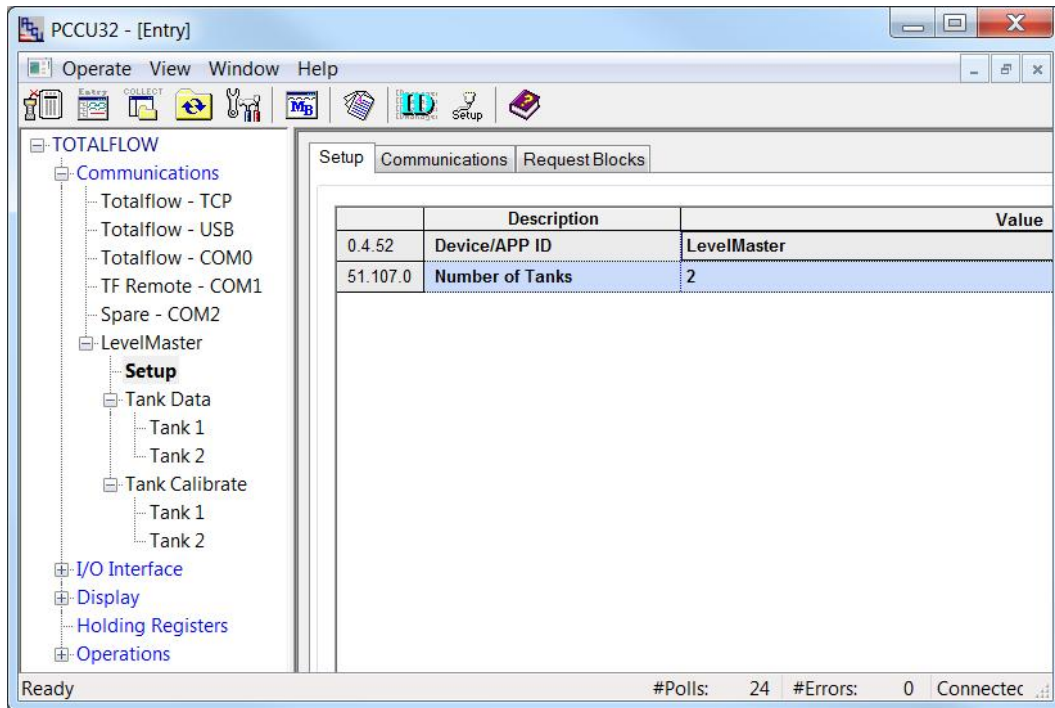

Figure 47: LevelMaster application Setup tab
4. On the **Setup** tab, the value of the Device/APP ID may be changed. Any name change will be reflected in the tree-view. (Figure 47).
5. Type the number of tanks that will handled by the application. Figure 47 displays an application handling 2 tanks.